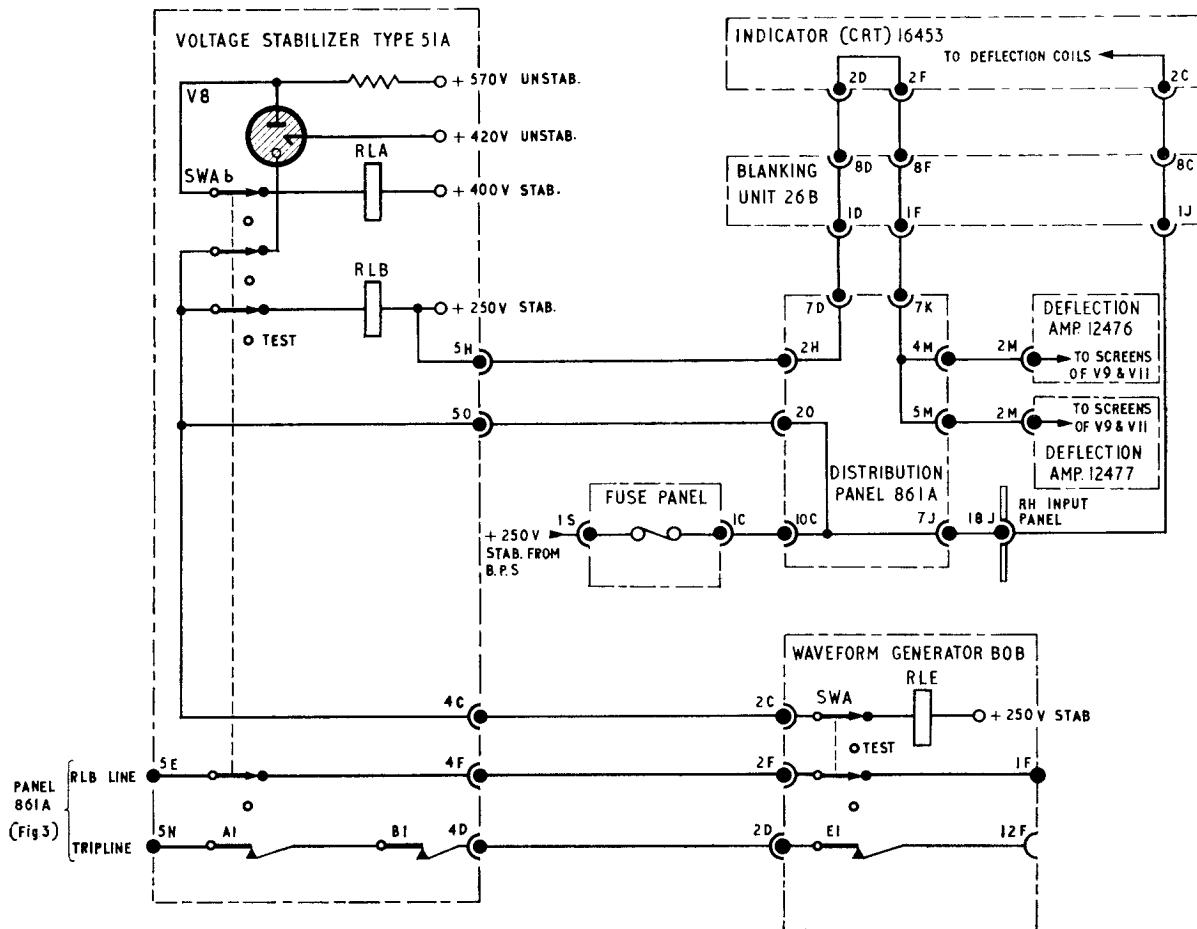

Fig. 1. Modified circuit of +250V stabilized line
3. One of the changes is to the stabilized +250V h.t. circuit. This circuit has been modified (fig. 1) so that the supply to the deflector coils and the supply to the screens of the output valves (V9 and V11 in the deflection amplifiers) are carried by the same cable.